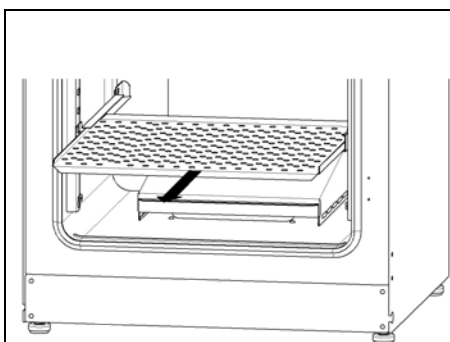

Fig. 1
3. Pull out the all trays. (See Fig. 1.)